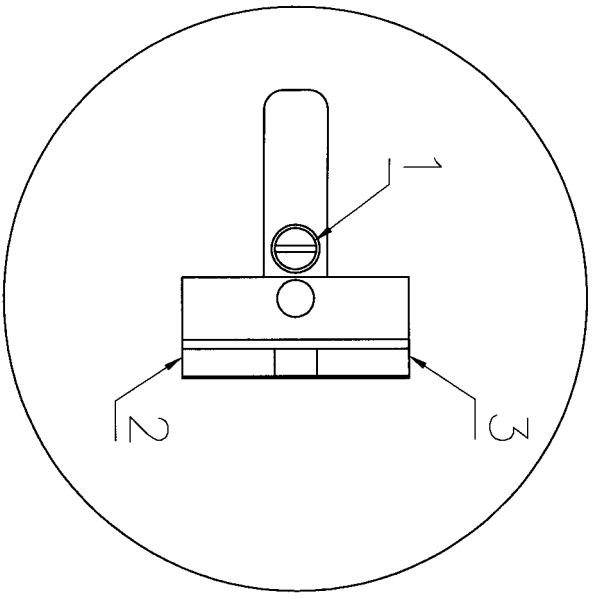

FIG. 4
4. **Sighting adjustment (Fig. 4)**